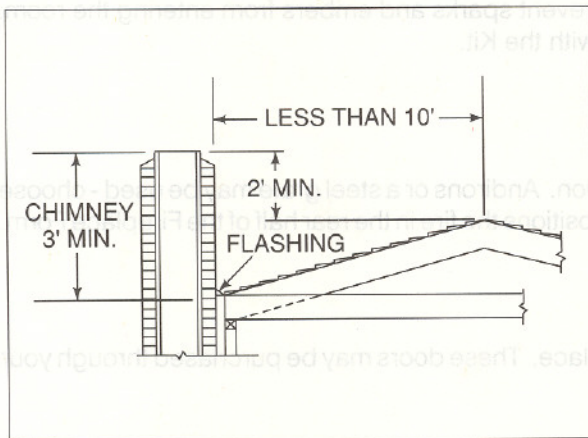

Figure 13
1. If the horizontal distance from the side of the chimney to the peak of the roof is 10 feet or less, the top of the chimney must be at least 2 feet above the peak of the roof, but never less than 3 feet in height above the highest point where it passes through the roof. See Figure 13.